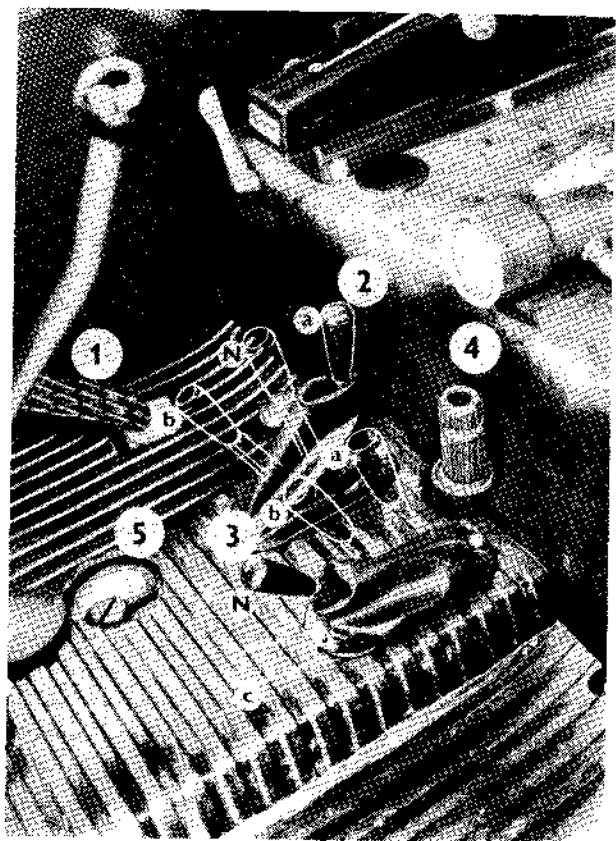

Fig. 10
4. Switching on reduced speeds (slow) — (Fig. 10/2a), road speeds (fast) — (Fig. 10/2b), neutral (Fig. 10/2N).
13. Gearbox and main transmission housing oil filling hole (Fig. 10/5).
3. Reduced and road speeds preselector (Fig. 10/2).
4. Hydraulic power lift and PTO shaft drive engagement lever (Fig. 10/3) engages:
5. PTO shaft speed gear shift lever for 540 and 1000 rpm-1 (Fig. 10/4) — fitted on Z 6011—7045 only.
1. Foot-operated fuel supply (throttle) control (Fig. 10/1).